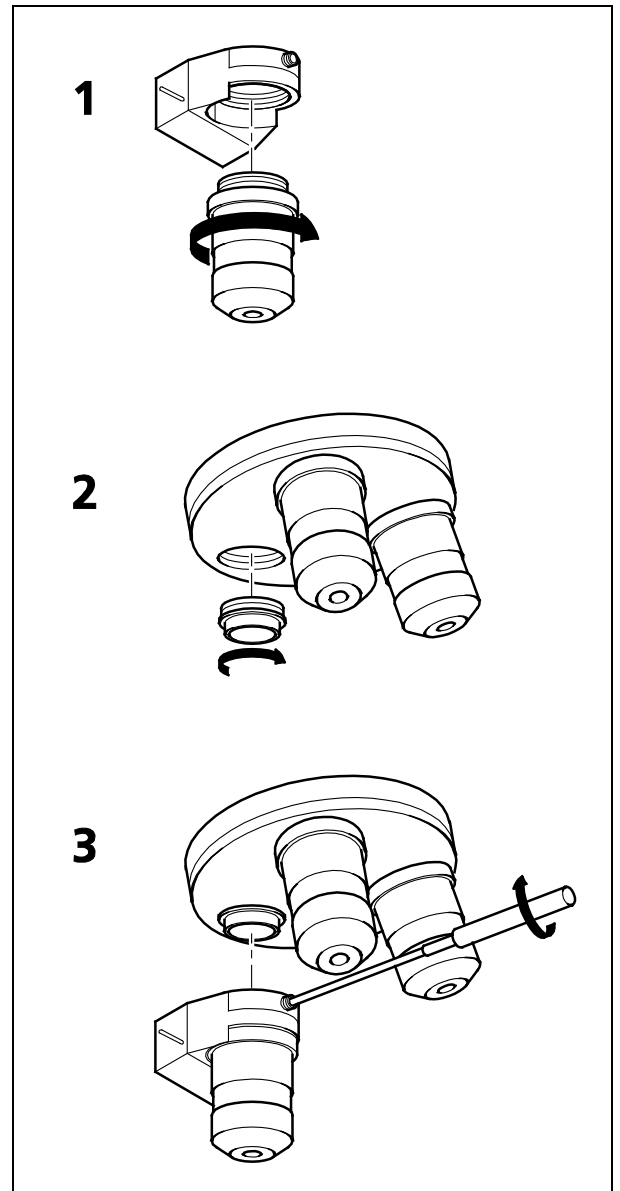

Fig. 1 Installation of the Piezo Objective Focusing Device
- Screw in your microscope objective into Piezo Objective Focusing Device (see Fig. 1/1).
- Screw the thread-ring into your microscope (see Fig. 1/2).
- Easy clamp the Piezo Objective Focusing Device on the thread-ring (see Fig. 1/3).